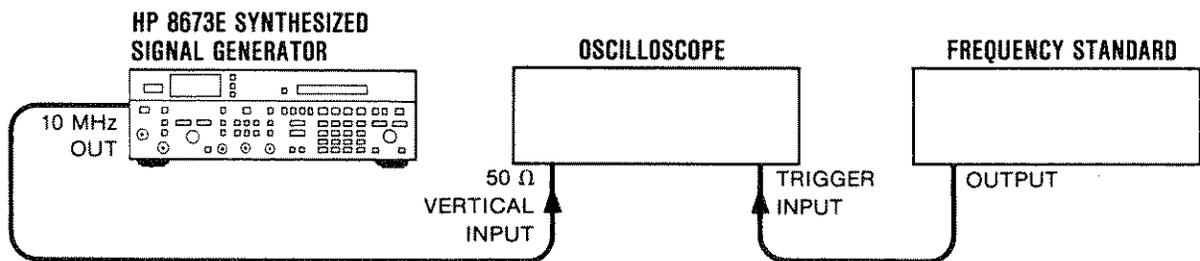

Figure 4-15. Internal Time Base Aging Rate Test Setup
2. Connect the equipment as shown in Figure 4-15.